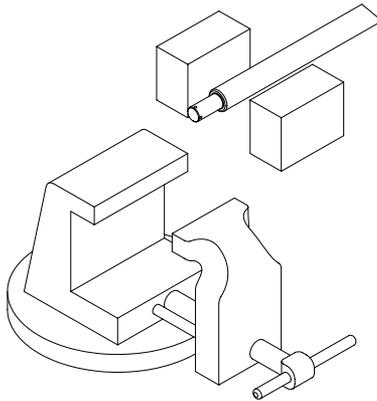

Figure 4-4, Cylinder Shaft
5. Clamp the rod assembly in a soft jawed vise on the wrench flats, not on the rod surface. If the rod does not have wrench flats use two pieces of wood on both sides of the rod to prevent scarring. (Figure 4-4)